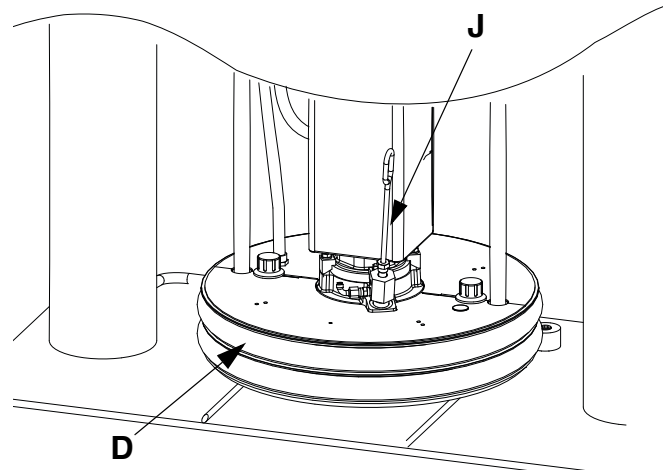

FIG. 17: Heated Platen
3. Lubricate the platen seals (D) with grease or other lubricant compatible with the fluid you will pump.
5. Put a full drum of fluid on the ram base, slide it back against the drum stops, and center it under the platen (D). An optional drum roller kit is available to make it easier to load the drum on the base. Order Kit 255627.
6. Remove bleed stick from platen bleed port (J). See FIG. 17.